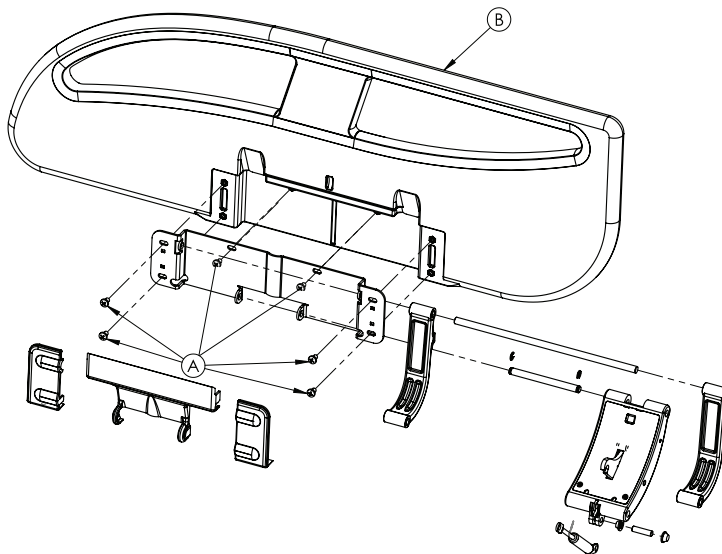

Figure 14: Head end siderail hoop
12. Using a #2 Phillips screwdriver, remove and discard the six screws (A) that secure the siderail hoop (B) to the siderail mechanism (Figure 14 on page 54).
8. Using a #2 Phillips screwdriver, remove and discard the six screws (A) that secure the siderail hoop (B) to the siderail mechanism (Figure 14 on page 54).